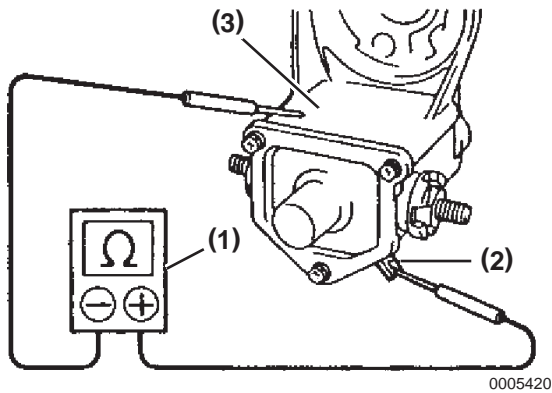

Figure 10-32
2. Using an ohmmeter (**Figure 10-32, (1)**) check the continuity between terminals 50 (**Figure 10-32, (2)**) and the switch body (**Figure 10-32, (3)**). If no electrical continuity is measured, replace the magnetic switch.